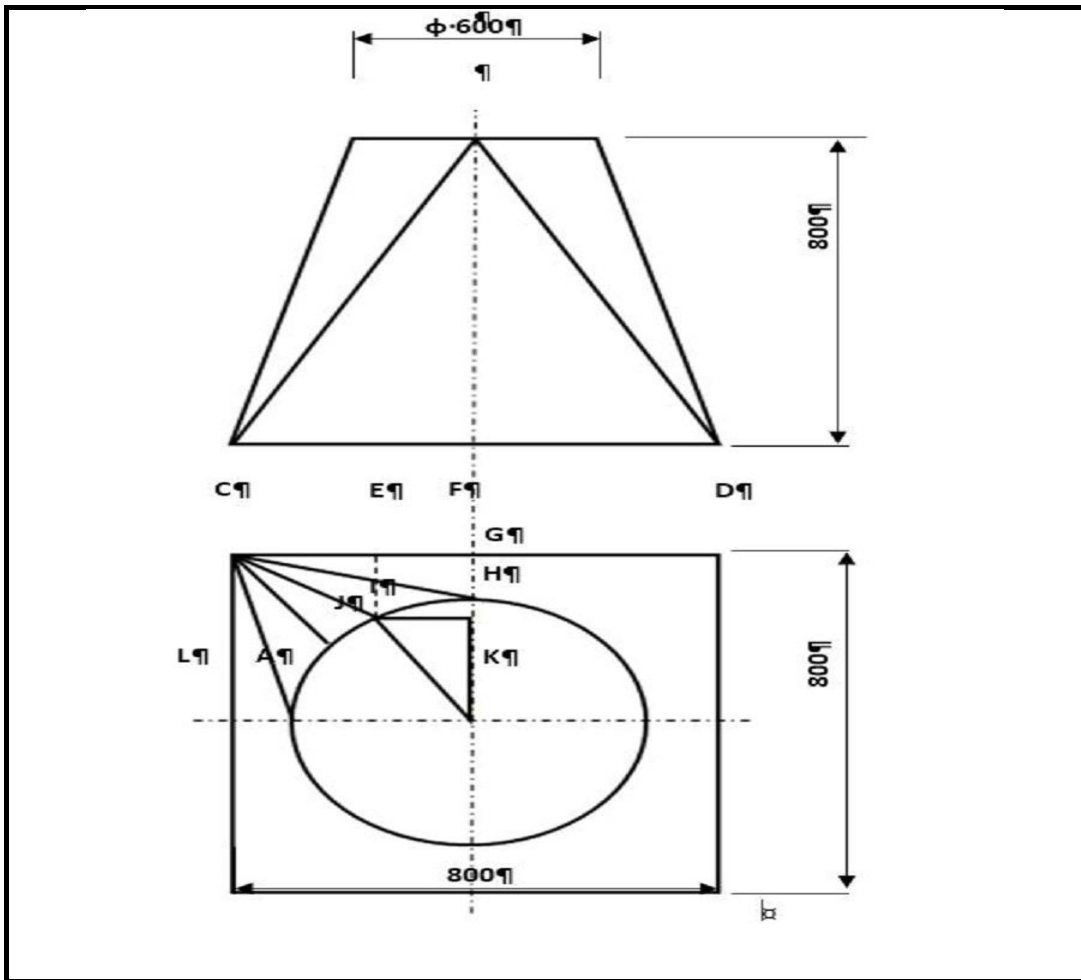

FIGURE 11.2
11.2 FIGURE 11.2 below shows a square-to-round transition piece. In order to develop the transition, the true lengths must be calculated: